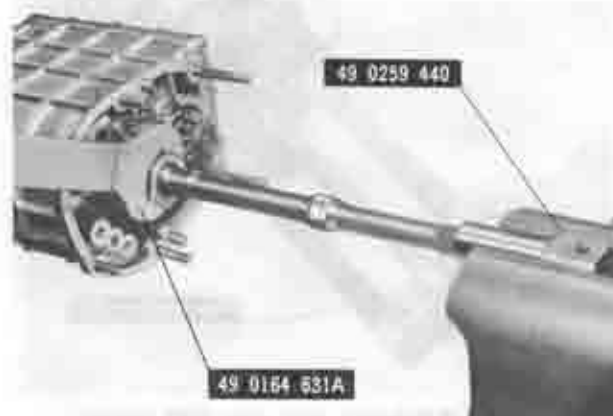

Fig. 7-5 Removing main shaft lock nut
16. Straighten the tab of the lockwasher, hold the main shaft with the **turning & holder** (49 0259 440), as shown in Fig. 7-5, and loosen the lock nut by using the **spanner** (49 0164 631A). Remove the reverse gear and key from the main shaft.